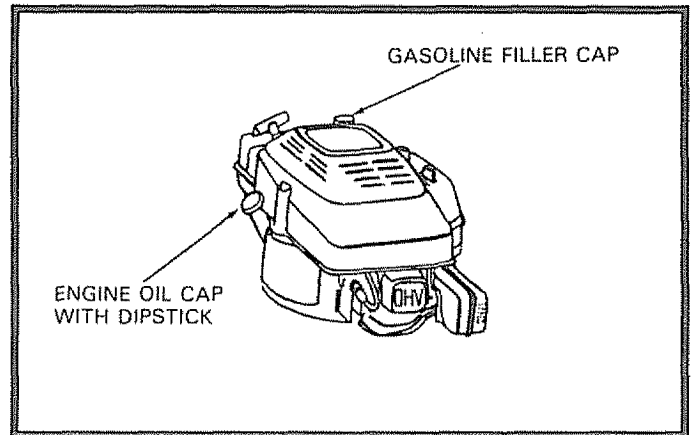

FIG. 15
- Remove Engine Oil Cap (See Fig. 15) and fill to the FULL line on the dipstick.
- After the first two (2) hours of mowing, change the oil, and every 25 hours thereafter. You may need to change the oil more often under dusty, dirty conditions.
- Fill gasoline tank with fresh, clean unleaded gasoline. **DO NOT USE PREMIUM GASOLINE. BE CAREFUL NOT TO OVERFILL TANK (SEE FIG. 15).**